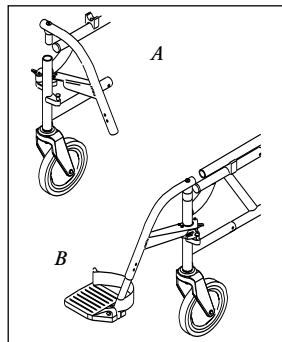

Figure 5
1. Installation (Fig. 5)
- a. Place swing-away pivot saddle into the receiver on front frame tube with the footrest facing outward from the frame. (Fig. 5-A)
- b. Rotate the footrest inward until it locks into place on locking bolt. (Fig. 5-B)